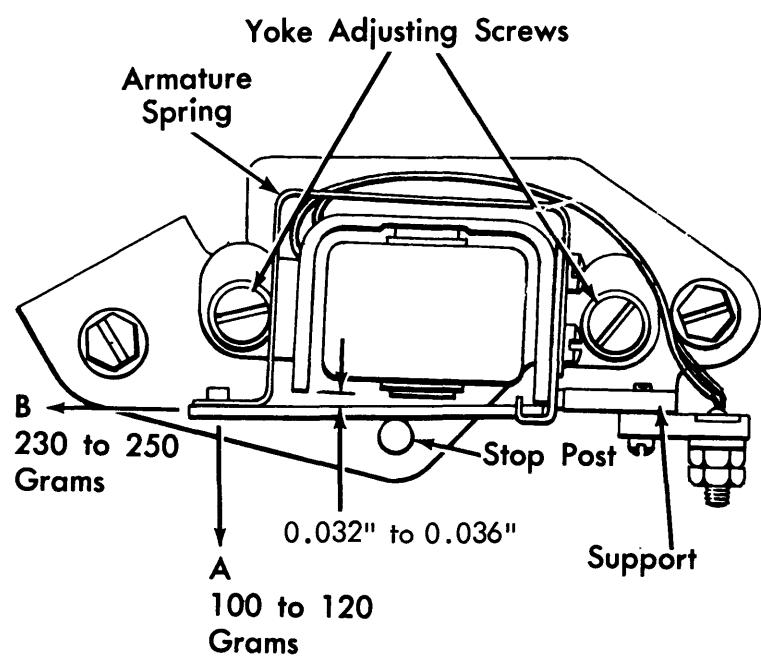

Figure 4-4. CF Clutch Magnet Adjustment
1. Adjust magnet yoke adjusting screws (Figure 4-4) for 0.032-inch to 0.036-inch clearance between armature and yoke at the operating end.
2. Form armature spring to exert tension of 100 to 120 grams in direction of A (Figure 4-4) and 230 to 250 grams in direction of B (Figure 4-4).